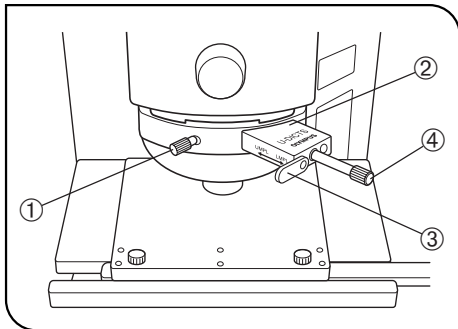

Fig. 13
2 Setting the DIC Slider (Fig. 13)
(Fig. 13)
1. Adjust the background contrast by turning the prism movement knob ④ on the DIC slider as described below. (Fig. 13)
4 Switching to Brightfield/Darkfield Observation (Fig. 13)